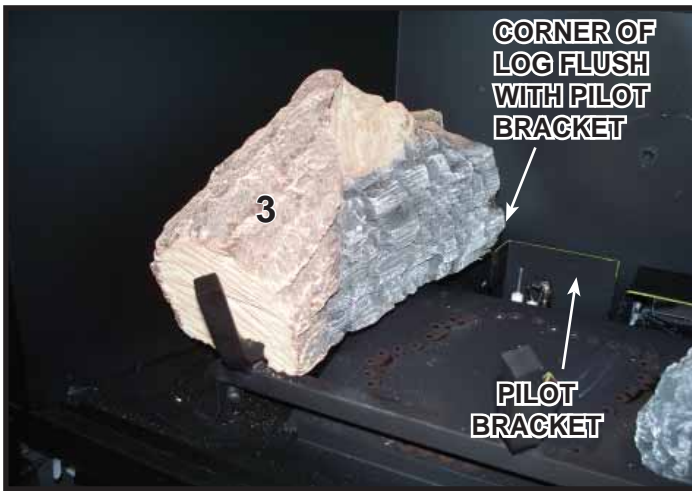

Figure 5. Place Log #3
**Log #3 (SRV2206-702):** Position Log #3 as shown in Figure 5. Position the grate tine groove, located on the bottom of the log, over the base of the left grate tine. Pull the log forward. The back end of Log #3 rests on the log support. Move the end of Log #3 clockwise until the bottom right corner is flush with the pilot bracket.